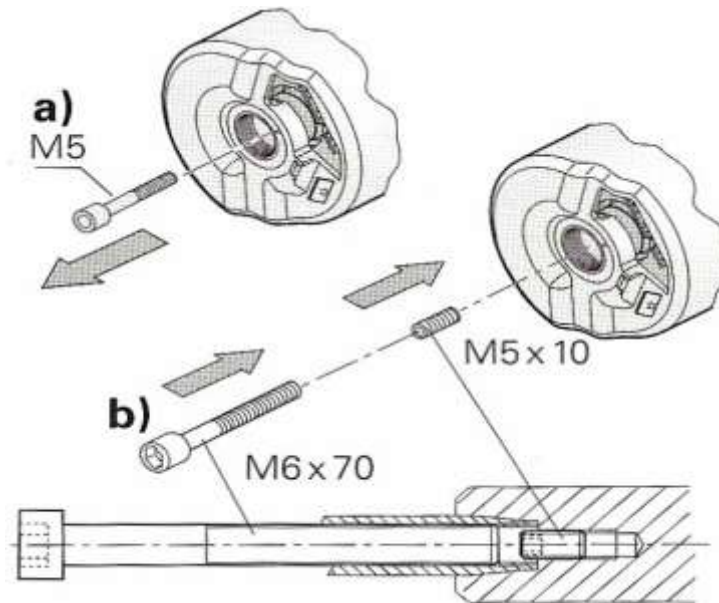

Figure 2. Encoder Mounting Operation
2. Place the Encoder to the connection socket on the motor as figure 2.